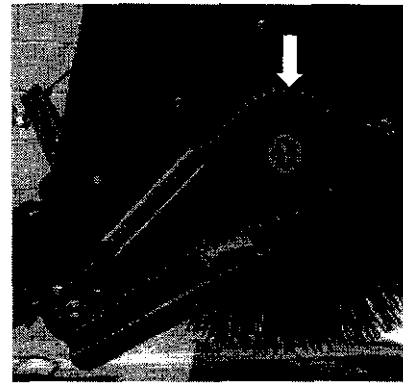

figure 14
2. Disconnect the drive chain (figure 14) at the master link. Remove the chain from the large sprocket.